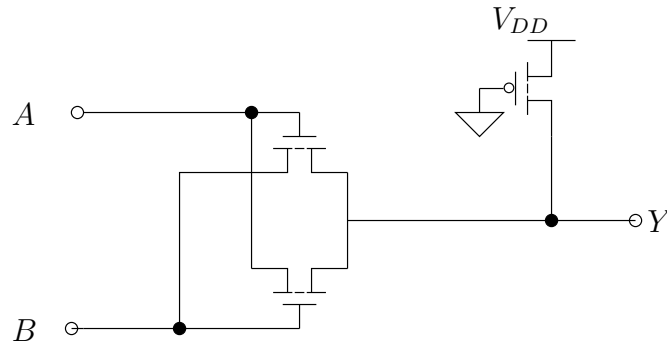

Figure 2: Mystery Circuit.
- What function is implemented by the circuit in fig. 2. What considerations are necessary when sizing the transistors?